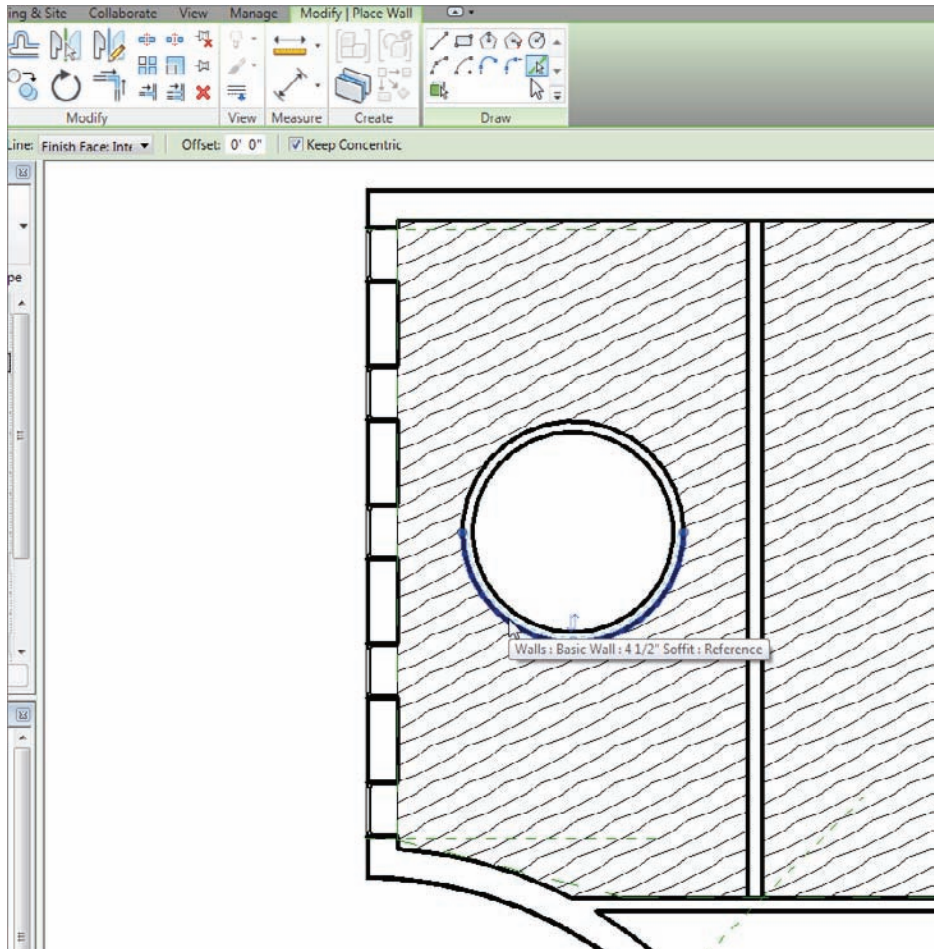

FIGURE 9.29 Creating one cool soffit!
3. Notice that the entire circle is selected and the blue alignment line is facing the inside of the hole (see Figure 9.29). When you see this, pick a point to the inside of the hole.